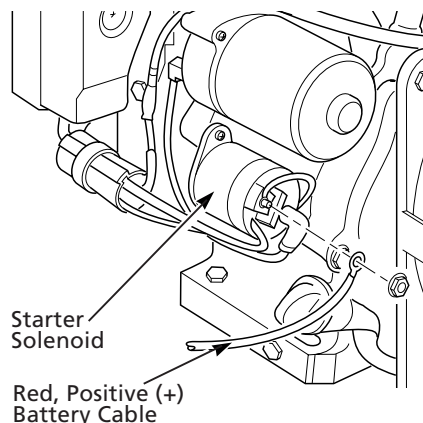

Figure 13 – Connecting Red, Positive (+) Battery Cable to Starter Solenoid on Engine (Model 3WY45 Shown)
1. Attach the red, positive (+) battery cable to the starter solenoid on engine (See Figure 13). The starter solenoid is located directly above the starter on Model 3WY47. This cable is factory installed.